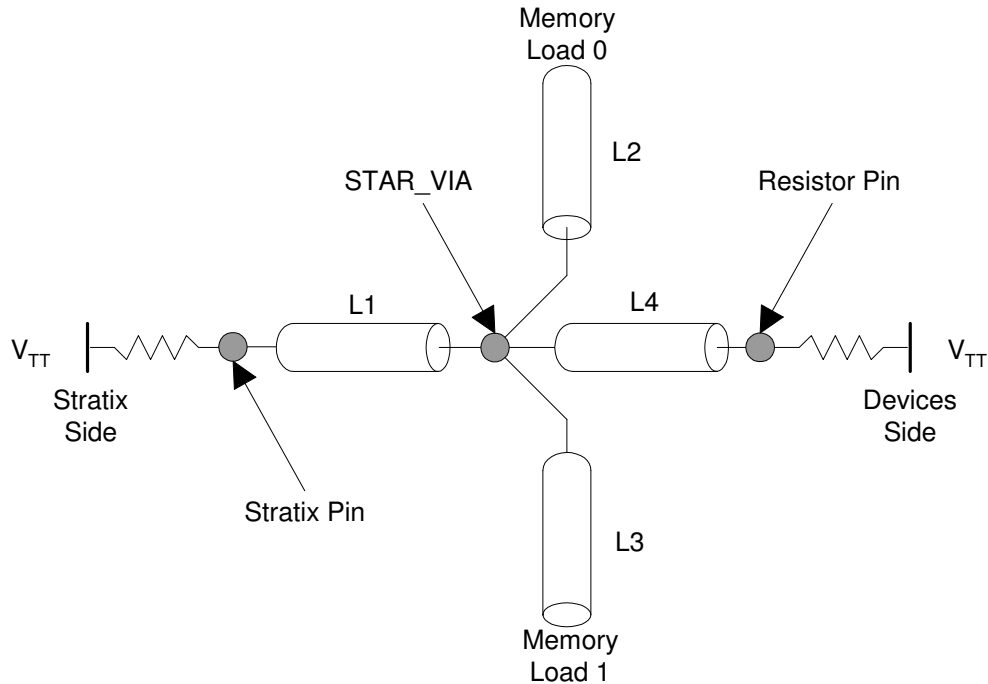

Figure 4-2
12. Within a given Y-shaped connection as described in the previous rule there must be some symmetry and matching within stubs in these traces. These stubs are shown in Figure 4-2 below. In this case the leg L1 should be a majority of the trace. Legs L2 and L3 should be matched within +/- 0.030 inches. The length rule for matching within a group (read group or write group) is NOT the total length of this trace. It is the length of EITHER L1 and L2 or L1 and L3. The connection in the center where all four stubs come together should be routed as shown below (not a 90-degree connection but a 45 degree connection). Leg L4 should be less than 0.750 inches. This should be followed for DDR2 address, command, and control lines.